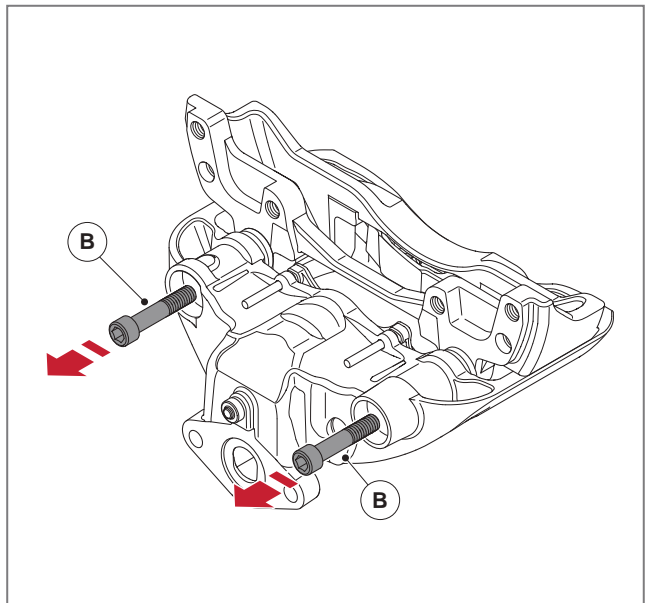

Fig. 57 - Removing the guide pin bolts
3. Using a long drive 14 mm Allen wrench, remove both bolts (B), see ► Fig. 57. The bolts must not be re-used.